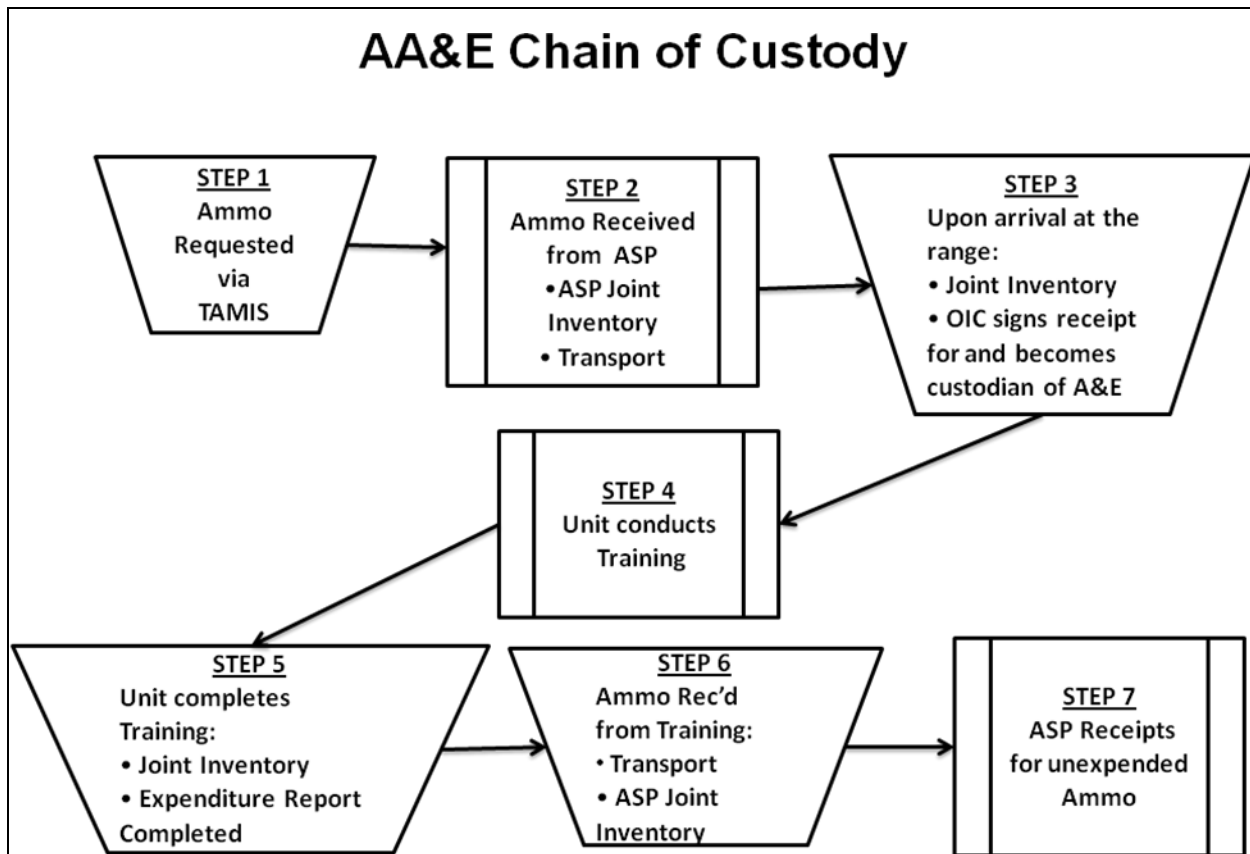

Figure 6-1 A&E Chain of Custody
c. The RSO will ensure Class V(W) Expenditure Reports (NAVMC 11381) and a legible copy of turn-in documents for unexpended assets are completed and turned in by the unit ammunition technician. The RSO will also ensure the ammunition technician submits completed expenditure reports (NAVMC 11381) to include issue and turn-in documents for unexpended A&E to the A&E audit and verification officer.
f. Figure 6-1 details the chain of custody for A&E.